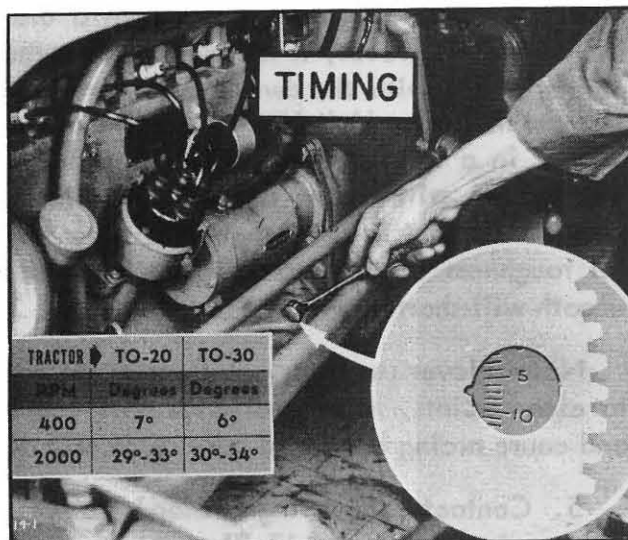

Fig. 216
1. Remove button plug from left-hand front side of engine housing, see Fig. 216.